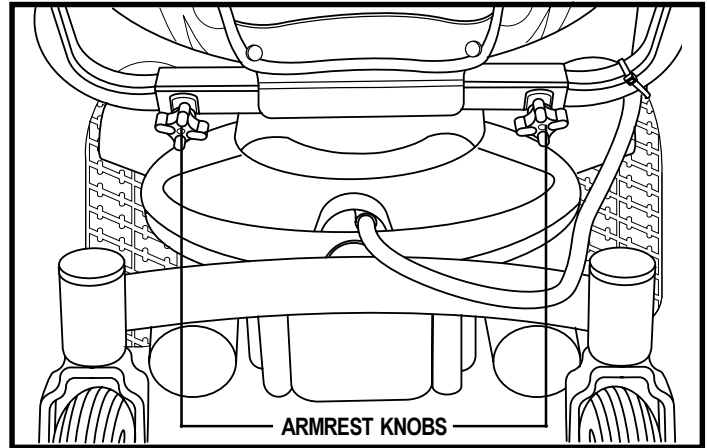

Figure 15. Armrest Width Adjustment
1. Locate the two armrest knobs on each side of the armrest receiver bracket. See figure 15.